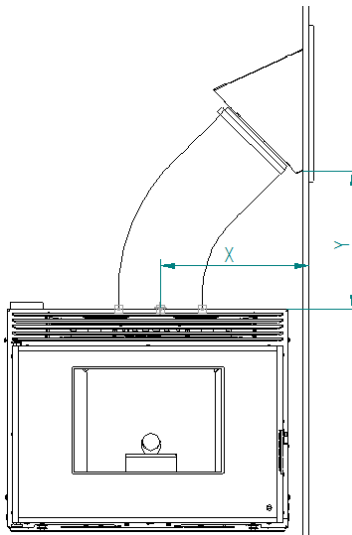

Figure 13 - Feeding system installation
- The position of the loading system has to maintain a ratio where X is always less than $Y = X * 0.7$, Figure 13, so that we can ensure that the slope is sufficient so that the pellets are not trapped in the tube connecting the loading mouth with the top of the insert structure. The loading mouth can be installed in any of the walls that form the surroundings where the equipment is installed, either to the right or to the left, as in the front or rear, if the layout of the house allows it. It is always necessary to respect the minimum distances $X = 390$ mm, $Y = 275$ mm Example: $X = 450$ mm $Y = 450 \times 0.7 = 315$ mm (minimum).